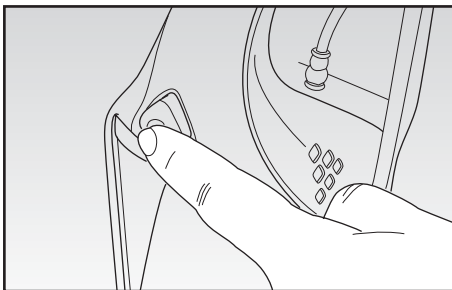

Fig. 2
- With the handheld part (C) properly assembled in the appliance body (M), press the switching on button (B) situated on the removable body (C) and tilt the handle backwards in the standard position of use (Fig. 2).
- Clean the wide surfaces by pushing with the brush (L) forwards.